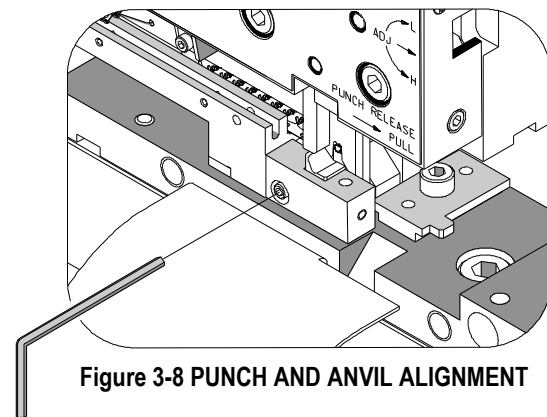

Figure 3-8 PUNCH AND ANVIL ALIGNMENT
2. With a terminal in position over the anvils, slightly loosen the front and/or back anvil mounting screws (See Figure 3-8) and center carrier cut-off tooling when applicable. See Figure 3-1.